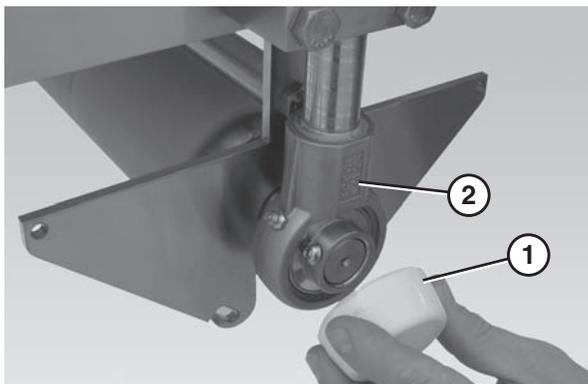

Figure 67
12. Remove the bearing cover (**Figure 67, item 1**) on the center drive shaft assembly (**Figure 67, item 2**).